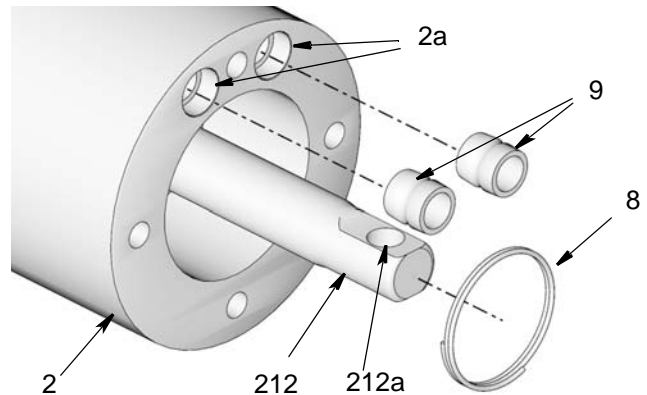
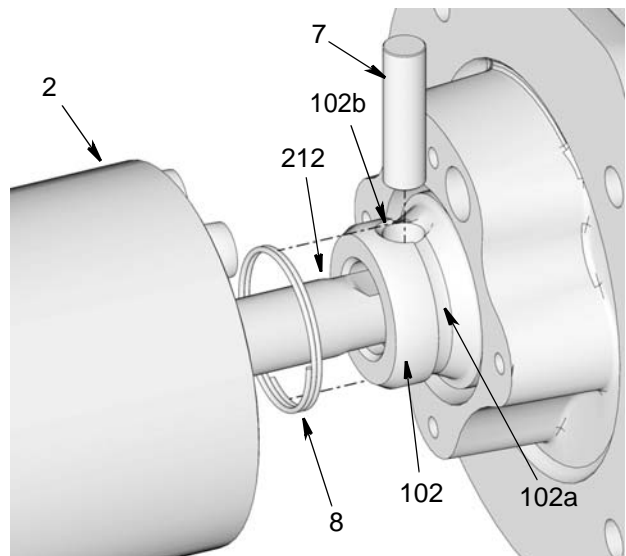
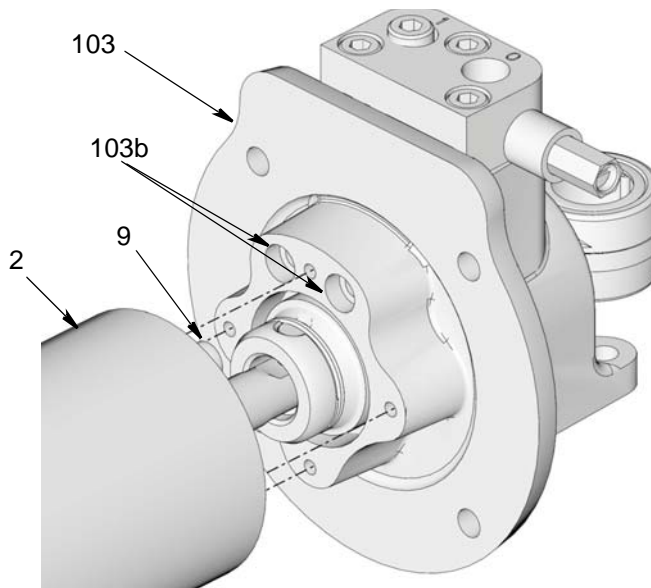

FIG. 45
FIG. 46
FIG. 47
18. Push displacement rod assembly up until displacement rod (212) is extending out the top of the pump adapter (2) as shown in FIG. 45.
19. Apply a thin layer of grease to gasket seals (9). Install seals in pump adapter (2) as shown in FIG. 45
20. Place spring (8) over the end of displacement rod (212) as shown in FIG. 46.
21. Remove pump assembly from vise. Align hole (212a) in displacement rod (212) (FIG. 45) with connecting rod hole (102b) (FIG. 46). Insert pin (7) through hole.
22. Slide spring (8) over pin (7) to secure pin in place. Seat spring in groove (102a) in connecting rod (102) to prevent it from moving during pump operation.
23. Align the two gasket seals (9) in pump adapter (2) with two holes (103b) in gear box pump bracket (103). Push the pump lower and pump assembly together (FIG. 47).